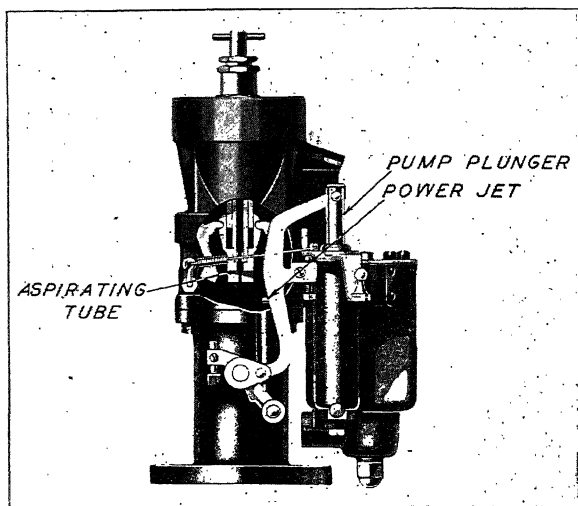
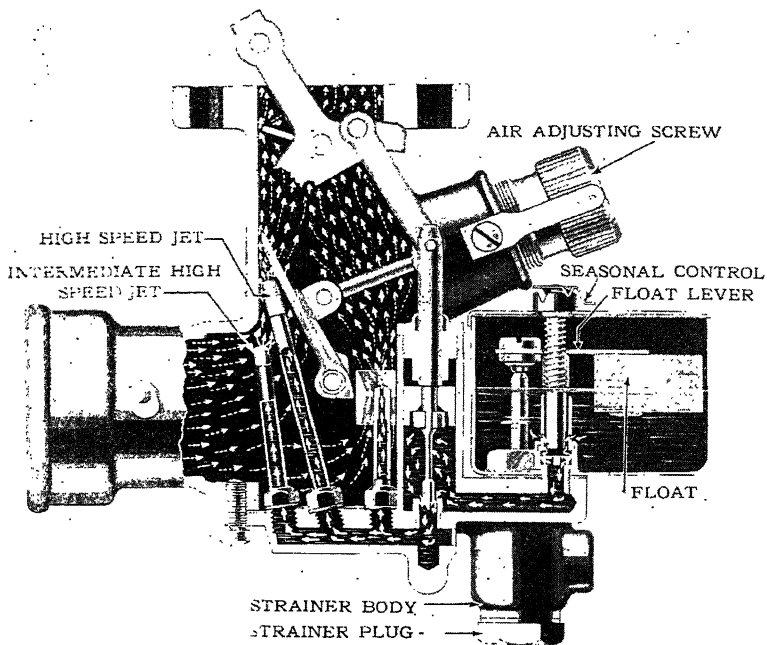

Fig. 68. Ford "V-8" Single-Barrel Carburetor
Fig. 71. The Economizer Action—Fuel and Air Are Represented by Arrows
The Ford "V-8" carburetor is of the down-draft type, specially adapted for the Ford "V-8" engine, Fig. 68. The carburetor size is  $1\frac{1}{4}$  inches. The carburetor is entirely automatic, and as the adjustments are made at the factory, it is claimed they will remain correctly set unless tampered with.
*Economizer Action.* The economizer action is illustrated in Figs. 71 and 72. The economizer metering pin is attached to the throttle control. See Fig. 68. It will be noticed that the lower end of the economizer pin is provided with an enlarged point. This point being in the economizer metering-pin jet provides a calibrated opening through which the gasoline flowing to any of the jets must